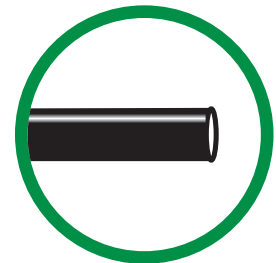

fig. 35
- a. Check the air line connection by deflating the spring and removing the line by pulling the collar against the fitting and pulling firmly on the air line. Trim 1" off the end of the air line. Be sure the cut is clean and square (see fig. 35). Reinsert the air line into the push-to-connect fitting.
2. If the preceding steps have not resolved the problem, call Air Lift customer service at (800) 248-0892.